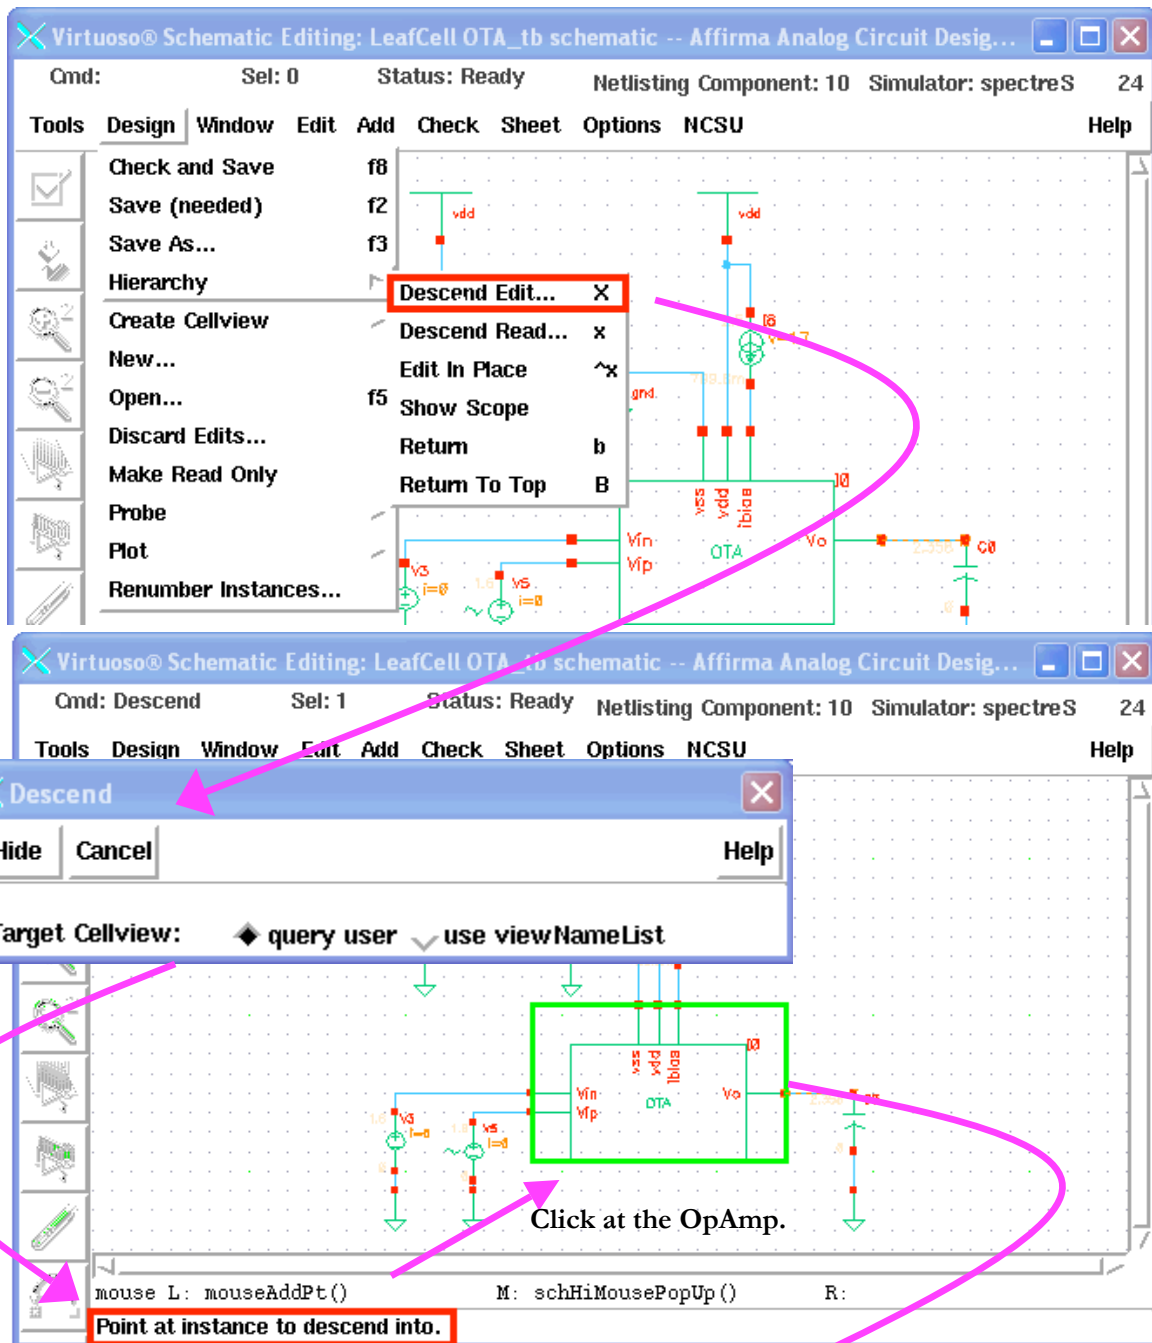

Figure 148: Descend into the OpAmp for transistor operating points.
15. The OTA_tb schematic will then pop up. Click at *Design...Hierarchy...Descend Edit...* (Figure 148). The *Descend Window* will then pop up, asking you to point at the instance that you want to descend edit (Figure 148).